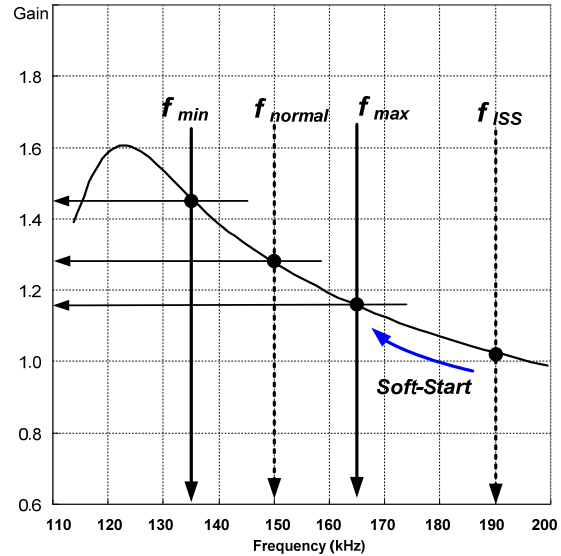
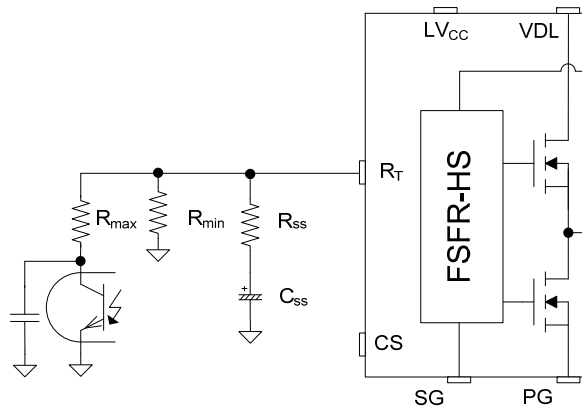

Figure 20. Resonant Converter Typical Gain Curve
Figure 21. Frequency Control Circuit
**3. Frequency Setting:** Figure 20 shows the typical voltage gain curve of a resonant converter, where the gain is inversely proportional to the switching frequency in the ZVS region. The output voltage can be regulated by modulating the switching frequency. Figure 21 shows the typical circuit configuration for the RT pin, where the opto-coupler transistor is connected to the RT pin to modulate the switching frequency. The switching frequency may be controlled from 20kHz to 500kHz.
The soft-start circuit is constructed by connecting R-C series network to the RT pin, as shown in Figure 21. Initially, the operating frequency is set by the parallel impedance of  $R_{ss}$  and  $R_{min}$ .